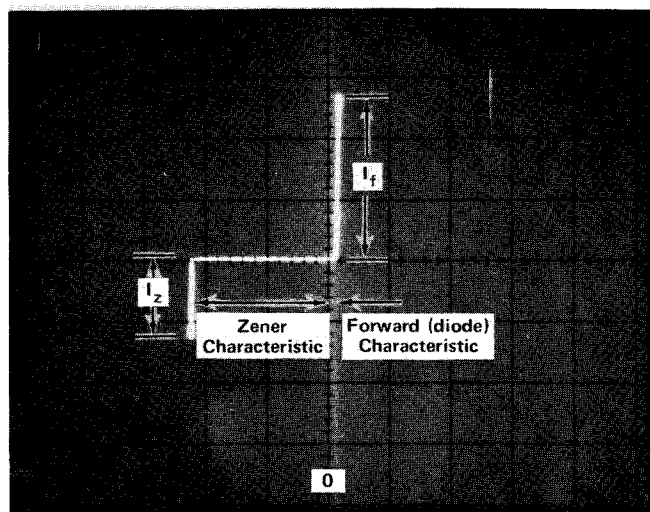

Fig. 9. Display of Zener diode characteristics (AC mode).
21. Set the LEFT-RIGHT switch to RIGHT and turn the VARIABLE COLLECTOR % control to obtain a display similar to that in Fig. 9. Note that both forward and reverse characteristics are displayed.